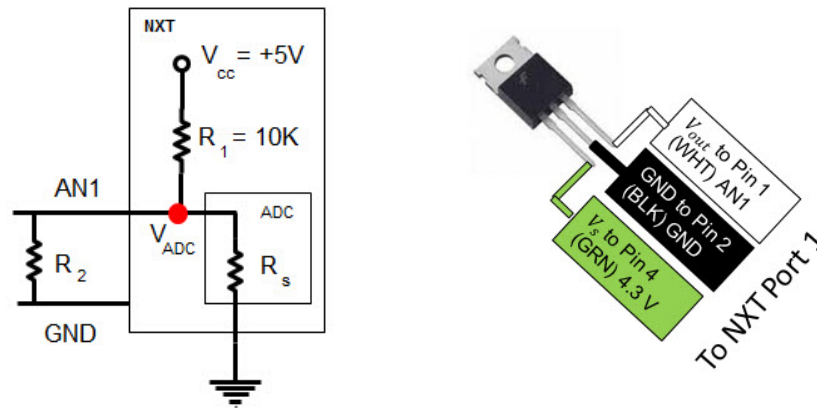
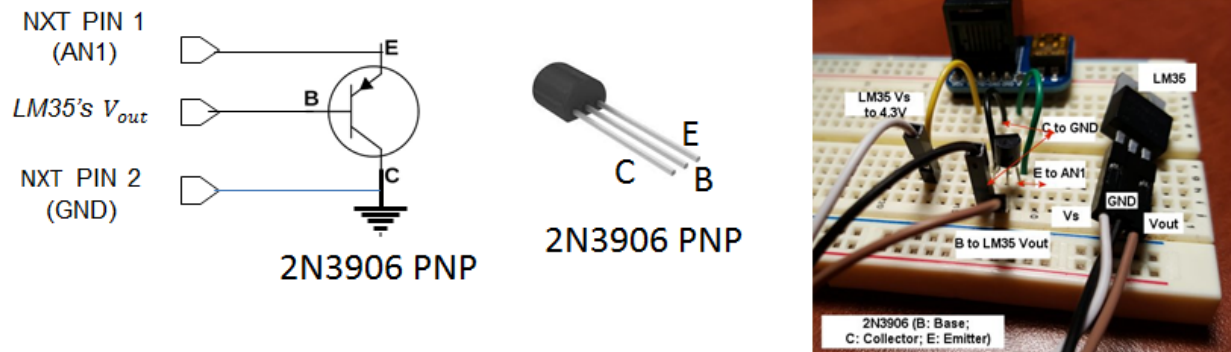

Fig. 5-2: Hook up a LM35 (TO-220 package) to the NXT (left) on lines AN1 and GND. Insert a $R_2 = 220 \Omega$ pull-down resistor across lines AN1 and GND
Fig.5-3: The 2N3906 transistor is also a TO-92 package. This particular version (Radio Shack 276-1604) has the 3-pins labeled as shown (right).
Step 1: Attach female jumpers to the pins of the LM35 as shown in **Fig. 5-2** (right). Next, connect a 220 ohm resistor across the NXT Port 1's Lines 1 (AN1) and 4 (+5V).
Step 1: As before, attach female jumpers to the pins of the LM35 as shown in **Fig. 5-2** (right). Next, insert the 2N3906 transistor into a solderless breadboard. Connect the opposite end of the (LM35) jumpers into the 2N3906 PNP transistor as shown in Fig. 5-3 above.